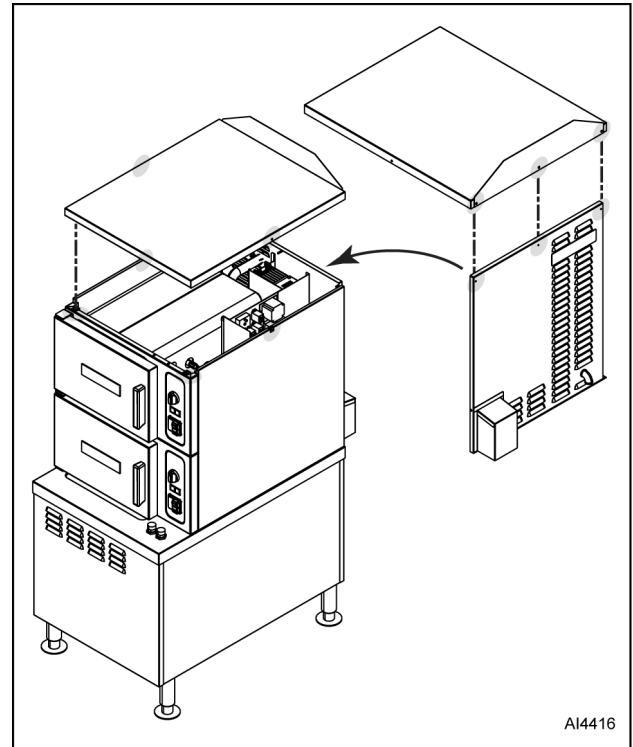

Fig. 9
1. Remove five screws from locations noted in Fig. 9.